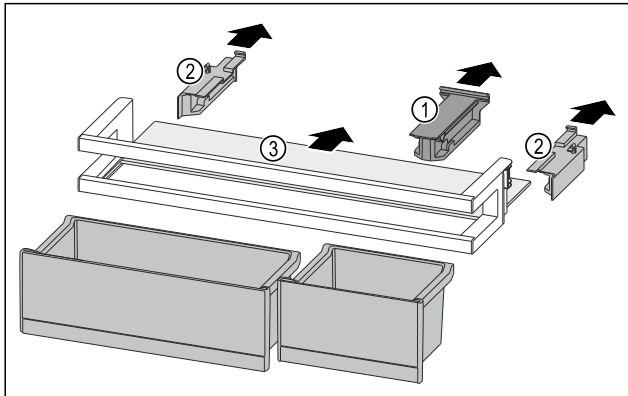

Fig. 88
- ▶ Pull off the holding part Fig. 88 (1).
- ▶ Pull off the side parts Fig. 88 (2).
- ▶ Remove the shelf Fig. 88 (3).